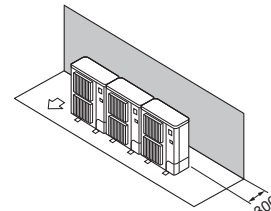

Fig. 2-9
- ① Solo ostacoli posteriori (Fig. 2-9)